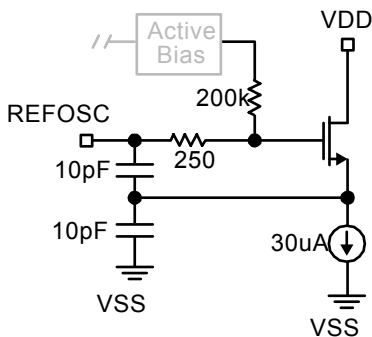

**Figure 4. DO Pin**
The output stage for the digital output (DO) is shown in Figure 4. The output is a 45µA push and 45µA pull switched-current stage. This output stage is capable of driving CMOS loads. An external buffer-driver is recommended for driving high capacitance loads.